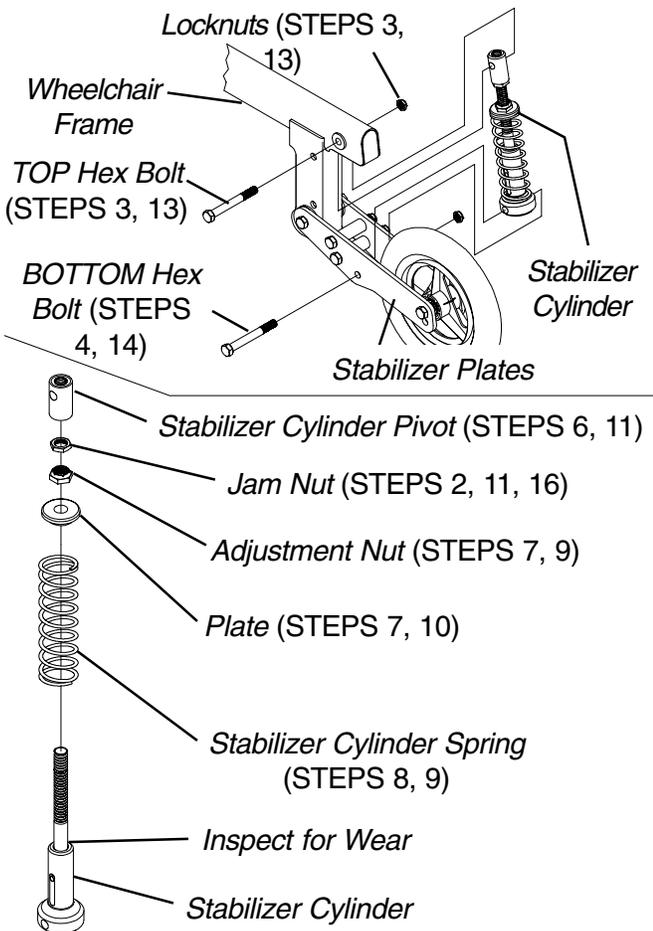

FIGURE 16 - REPLACING STABILIZER CYLINDER SPRINGS
10. Reinstall the plate and adjustment nut onto the stabilizer cylinder as shown in FIGURE 16.
12. Position the new stabilizer cylinder on the wheelchair as shown in FIGURE 16.